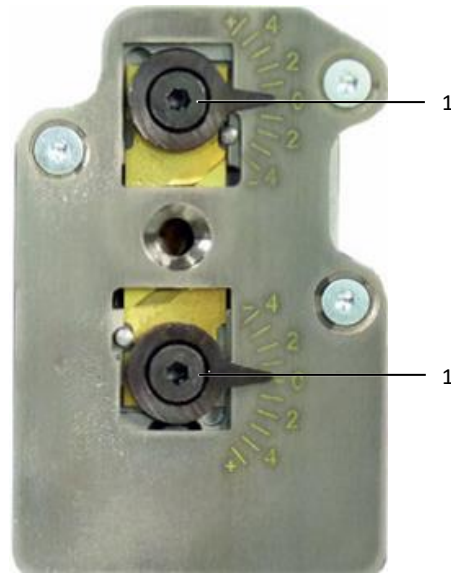

Fig. 15: Insulation stripping unit
- Loosen the two cam screws (fig. 15, item 1) (Allenkey 2.5 mm).